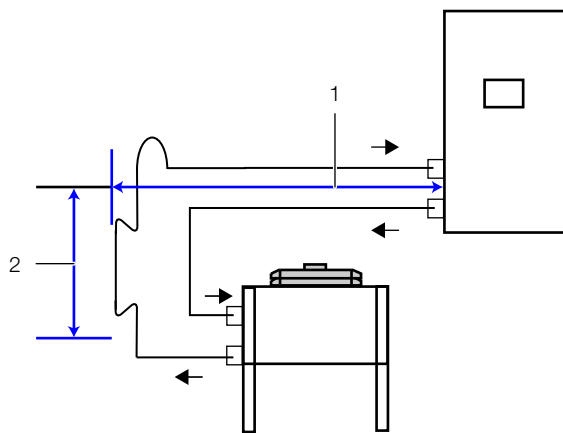
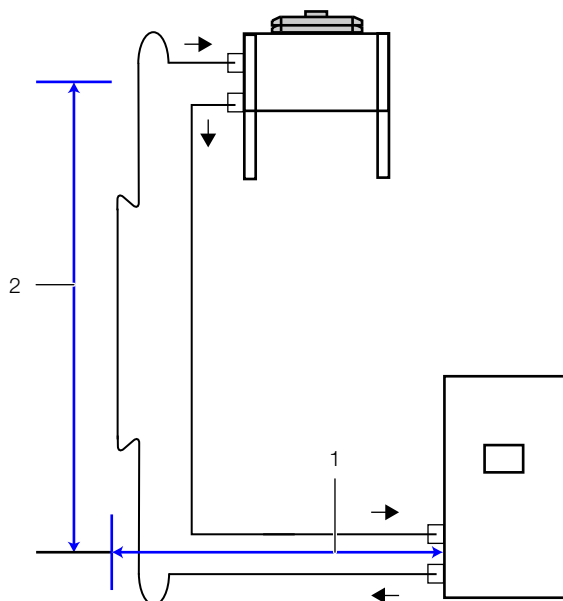

Fig. 11: Relative positioning condenser below the LCP DX
Fig. 12: Relative positioning above the LCP DX
Sum total of horizontal (fig. 11, item 1) and vertical spacing (fig. 11, item 2 or fig. 12, item 2) between the LCP DX and the condenser	Max. 45 m equivalent length
Condenser above LCP DX (fig. 11, item 2)	max. 20 m
Condenser below LCP DX (fig. 11, item 2)	max. 3 m